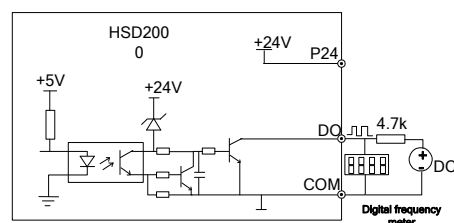

Figure 4-24: Output Terminal DO Connection 2
4. Digital pulse frequency output DO may use external power supply. Wiring may refer to Figure 4-24.